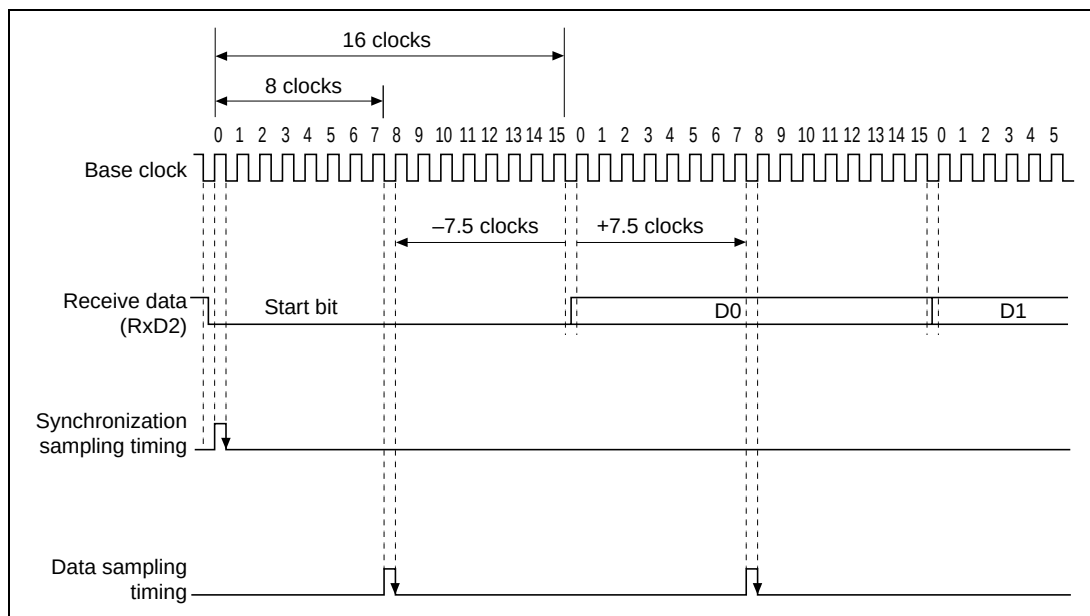

**Figure 16.14 Receive Data Sampling Timing in Asynchronous Mode**
**Receive Data Sampling Timing and Receive Margin:** The SCIF operates on a base clock with a frequency of 16 times the bit rate. In reception, the SCIF synchronizes internally with the fall of the start bit, which it samples on the base clock. Receive data is latched at the rising edge of the eighth base clock pulse. The timing is shown in figure 16.14.